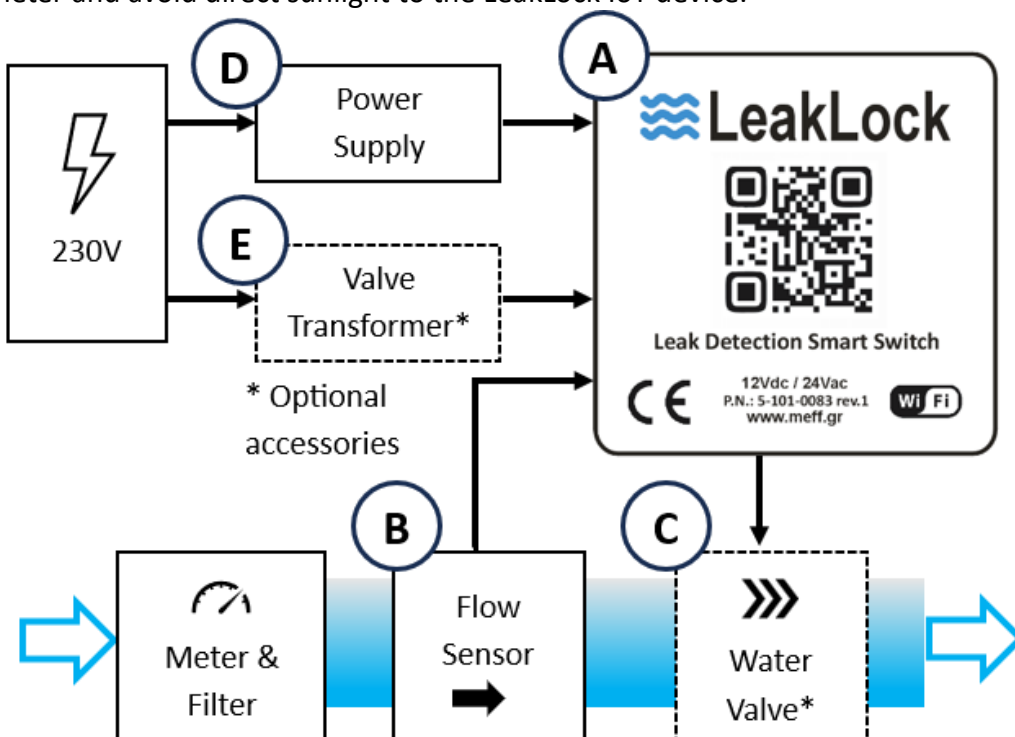

Fig. 1 Typical residential setup
- ✓ Fit the flow sensor [B] and the (optional) valve [C] to the water pipe (see Fig. 1).